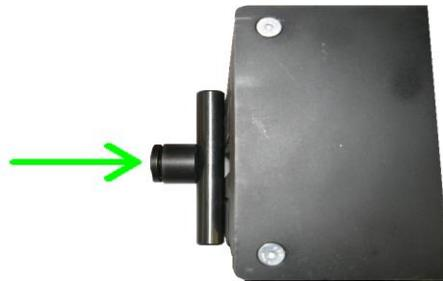

Rys. 44
- The device proceeds to resetting mode (Fig.44)